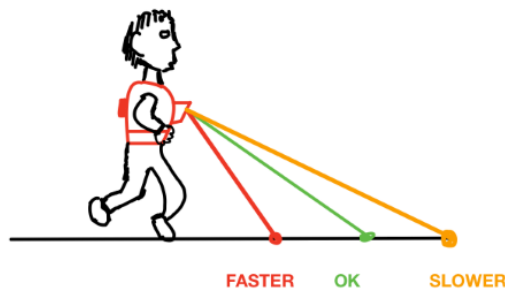

Figure 3: Working Illustration
- The servo-motor changes the angle of the laser in response to the runner's change in pace. (as shown in *Figure 3*)